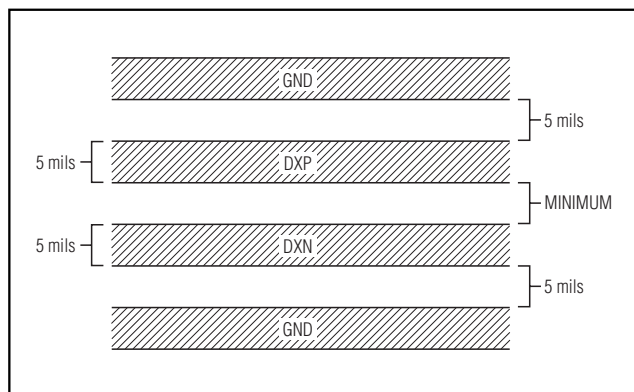

Figure 5. Recommended Minimum DXP-DXN PCB Traces
- 3) Route the DXP and DXN traces in parallel and in close proximity to each other. Each parallel pair of traces should go to a remote diode. Route these traces away from any higher voltage traces, such as +12VDC. Leakage currents from PCB contamination must be dealt with carefully since a 20MΩ leakage path from DXP to ground causes about +1°C error. If high-voltage traces are unavoidable, connect guard traces to GND on either side of the DXP-DXN traces (Figure 5).